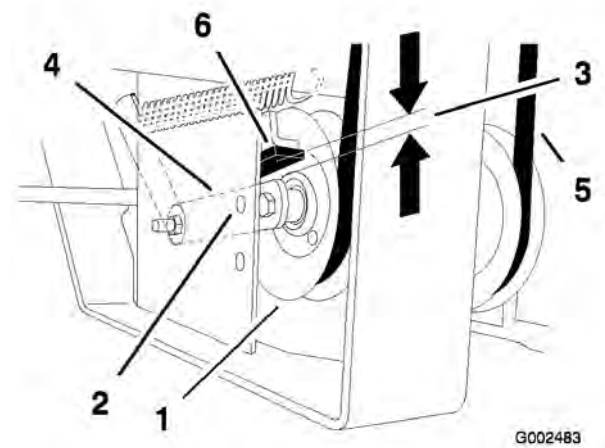

Figure 58
9. Check the distance from the rubber stop and the arm of the spring loaded idler pulley when the idler plate is tightened. It needs to be 0 to 1/4 inch (0 to 6 mm) from the rubber stop (Figure 58).